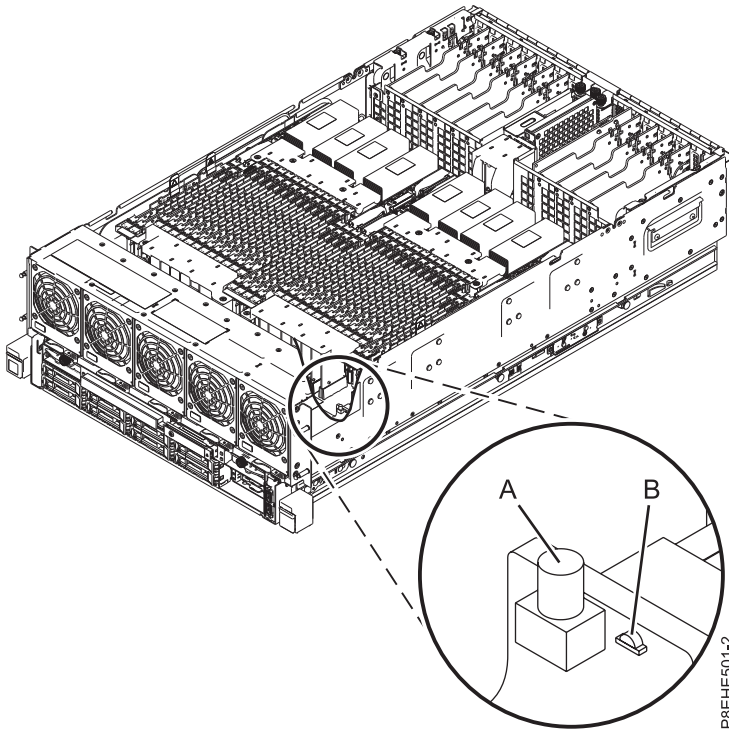

Figure 2. Activating the identify LED
2. Press the push button **(A)** as shown in Figure 2 on page 6, to activate the identify LED. Verify whether the LED **(B)** is lit, which indicates there is sufficient power supply to the identify LED. If the LED **(B)** is not lit, use the location code to find the physical location by using the service label.